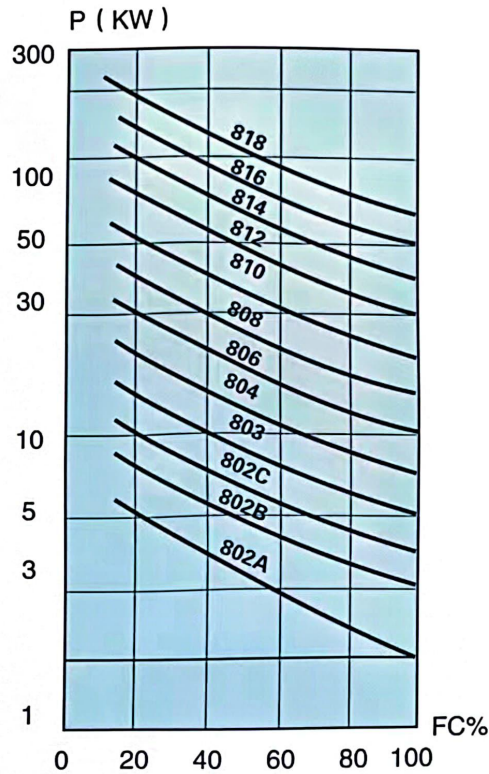

Figure 3: Output power of series-wound motor under Totally Enclosed Intermittent Duty (S3)
9. For ZZJ-800 series rolling mill auxiliary drive DC motors operating under totally enclosed intermittent duty (S3), refer to Figure 3 for the output power of series-wound DC motors under various load duty cycles (FC). Refer to Figure 4 for the output power of other (shunt) excited DC motors under various duty cycles operating under totally enclosed intermittent duty (S3).